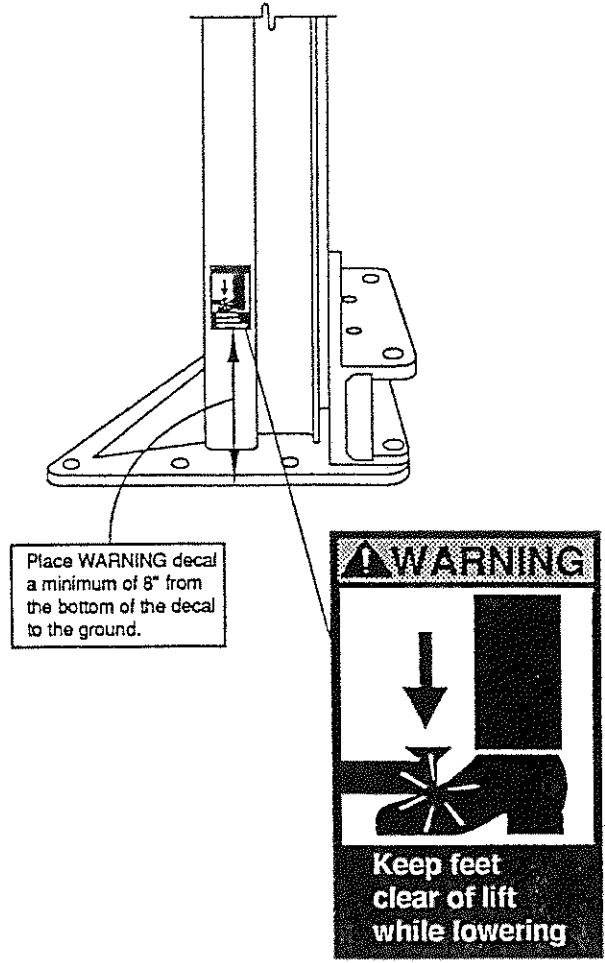

Fig. 24
**23. Decal Location:** Install enclosed pinch point decals. Place (1) decal on each column, Fig. 24.